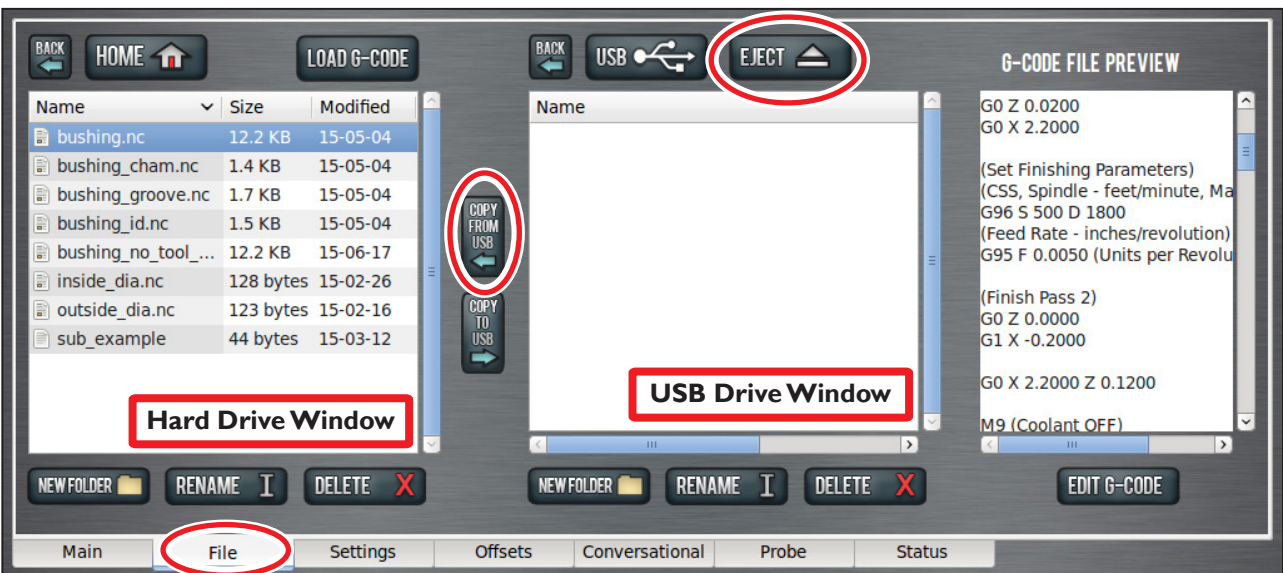

Figure 6.14
The *File* tab is used to transfer files to and from a USB drive, copy, delete, and rename files and folders (see **Figure 6.14**). The left window shows files and folders on the controller hard drive; the middle window shows files and folders on a removable USB drive. The controller does not run programs from the USB drive – programs must be copied to the controller before loaded and run.
The *Back* button and either *Home* or *USB* buttons above the left and center window can be used to navigate through the file structure, which is similar to the file structure on a home computer (see **Figure 6.14**). The *Copy to USB* and *Copy From USB* arrow buttons between the hard drive and USB drive windows are used to move files between the USB drive and the controller (see **Figure 6.14**).
NOTE: Use the *Back* button to navigate backwards or the *USB* button to jump to the highest (home) level (see **Figure 6.14**).
4. Highlight the file or folder to copy in the USB Drive Window; click *Copy From USB* button (see **Figure 6.14**).
7. Click the *Eject* button to disconnect the USB drive from the controller (see **Figure 6.14**).
Use the *New Folder*, *Rename*, and *Delete* buttons below the respective USB Drive and Hard Drive Windows for file management (see **Figure 6.14**). To move files into a folder, right-click on the file and select cut or copy from the pop-up menu.
The *G-code File Preview* displays the contents of the selected .nc file (see **Figure 6.14**).
1. To edit the G-code, highlight the file and click the *Edit G-code* button (see **Figure 6.14**).
The *Load G-Code* function is only available for files stored on the controller (see **Figure 6.14**).
1. Navigate to the desired .nc file in the Hard Drive Window and highlight; click *Load G-Code* button (see **Figure 6.14**).
2. Click on *Main* file tab; verify G-Code file name appears in drop-down menu (see **Figure 6.14**).